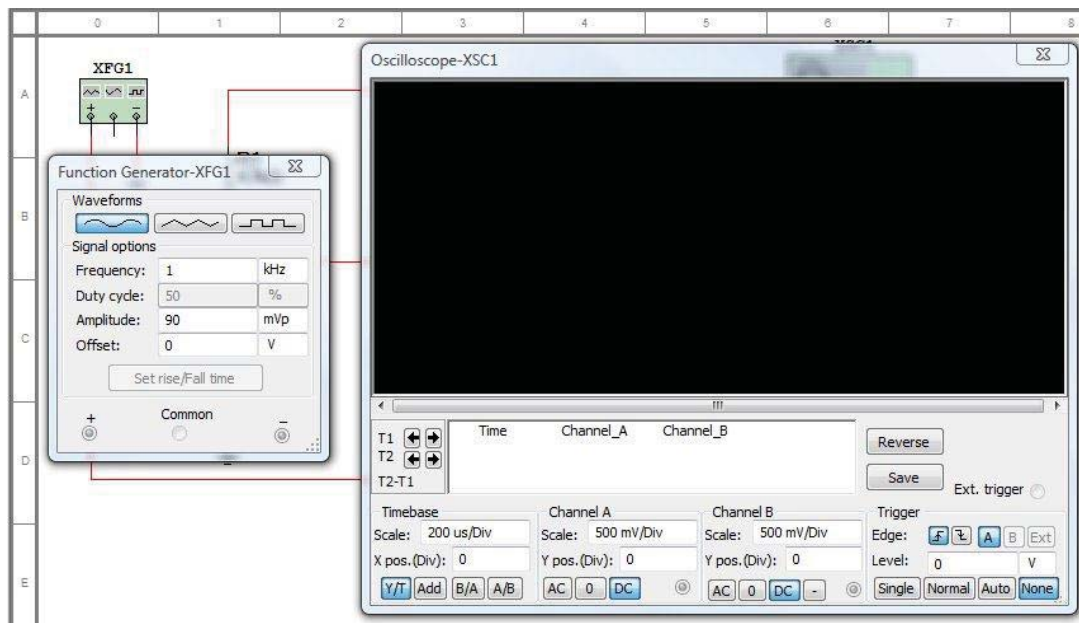

Figure 22
10. Recall if you place the mouse pointer over an instrument, the Instrument's name appears. Try it. In the same fashion that you added components to your workspace, add the following instruments; 1-Function Generator and 1-Oscilloscope. When you are finished your workspace should look like Figure 22.
13. Now set up your instruments as shown in Figure 22. For your Function Generator, set Frequency to 1 kHz, Duty cycle to 50%, Amplitude to 90 mV, and Offset to 0. Set up your Oscilloscope as follows; for both channel A and B set the amplitudes to read 500 mV per division, the Y position to 0, and set inputs to AC. Next, set Trigger to auto and the Time base to 200us per division.
You are now ready to simulate your circuit. Double check your workspace to make sure it matches Figure 22.